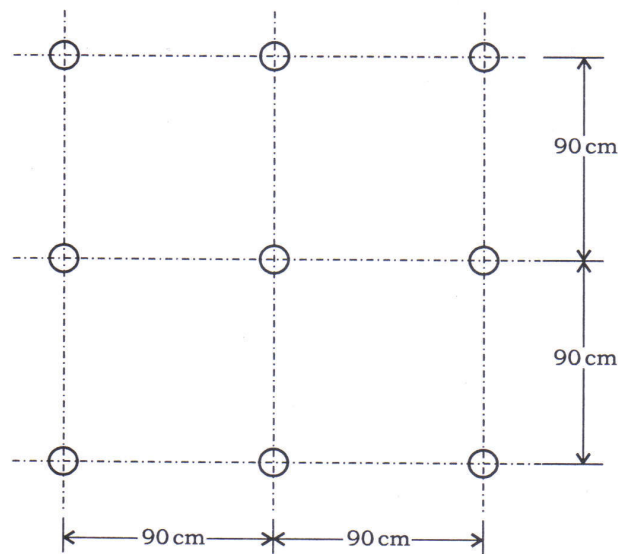

Fig. 6(a)
6. (a) The plan of a group of 9 piles driven into a soft clay is shown in Fig. 6(a) below. The diameter and the length of piles are 30 cm and 12 m respectively. The unconfined compressive strength of the clay is 80 kN/m². Calculate the allowable load on the pile group on the basis of shear failure criterion for a factor of safety 3.0. Assume $\alpha = 1$, $N_c = 9$: